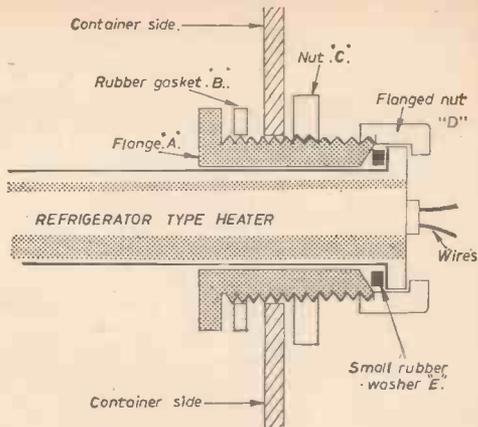

Fig. 4.—Surplus heater mounted in plumber's flange fitting.
A brass flange of the type illustrated in Fig. 4 is readily obtainable from builders' or plumbers' merchants. It has a  $1\frac{1}{8}$  in. thread, a nut and a outer flanged nut.
It is most important to earth the heater sheathing separately. Using a large hot iron, tin and thoroughly solder a thick copper earthing wire to the flange nut (D) of Fig. 4, and test it by giving a good tug. This is wired via the terminal block to the green earth wire